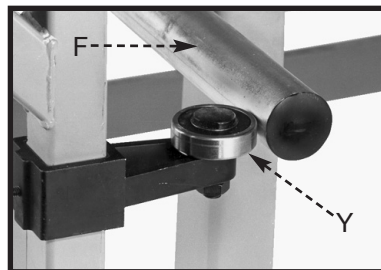

Fig. 37
12. Pull the sliding table toward the front of the saw until the lower bearing (Y) Fig. 37 is near the end of the lower rail (F).